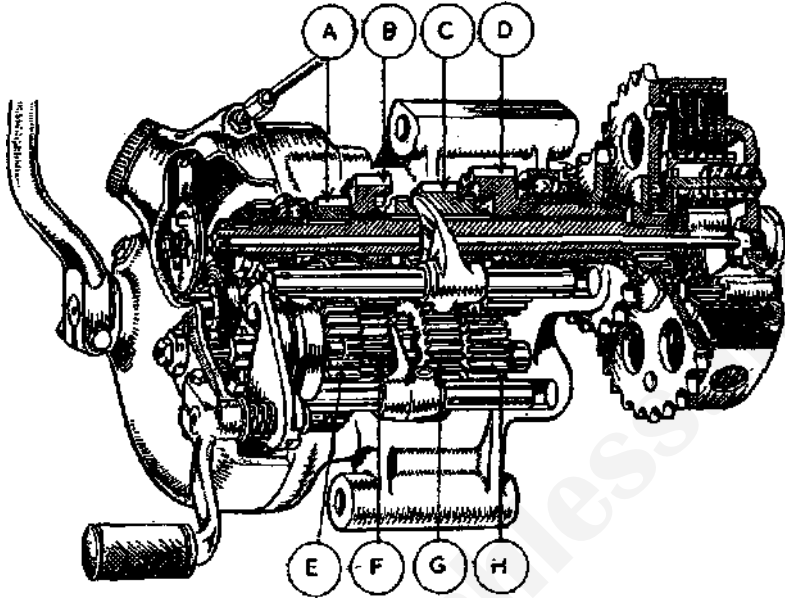

FIG. 31.—SECTION THROUGH GEARBOX SHOWING GEARS AND CLUTCH WITH ACTUATING MECHANISM.
(1) The main driving bearing, oil seal, retaining washers and circlip.
(2) The main gear, with spacing collars, washers, chain sprocket and tab washer, with fixing nut. Apply chain bar firmly, tighten the sprocket nut and turn down the tab-washer.
(3) The mainshaft; through main gear.
(4) The gears on the layshaft in the order shown in Fig. 31. The fixed pinion is fitted to the short end of the layshaft.
(5) Hold the layshaft assembly in hand, with the fixed pinion on the left. Take up the camshaft (small pinion to the right), and engage the larger of the two striker forks in the groove for the sliding clutch.
(6) Hold the mainshaft sliding gear, large pinion to the left, along the camshaft assembly, so that the smaller striker fork engages with its central groove.
(7) Insert the entire assembly into the gearbox shell, sliding the mainshaft gear along the mainshaft, and push home, locating the camshaft and layshaft into the respective bushes.
(8) Slide the remaining free pinion on the mainshaft.
(9) Pawl, spring and slotted screw, locating gears.
(10) The twelve rollers, with grease to hold in position.
(11) The mainshaft ball bearing for kick-starter case; locate with circlip.
(12) Paper washer for gearbox shell, with grease applied on gearbox face.
(13) The kick-starter case. Ensure that the rollers enter the housing in the kick-starter case. Fit the four case nuts and firmly tighten.
(14) The ratchet pinion bush and spring on mainshaft ratchet pinion (teeth outwards). Follow with the ratchet driver and fully tighten the fixing nut.
The general arrangement shown in Fig. 31 illustrates the internal gearbox lay-out, together with the foot-change mechanism and the kick-starter.